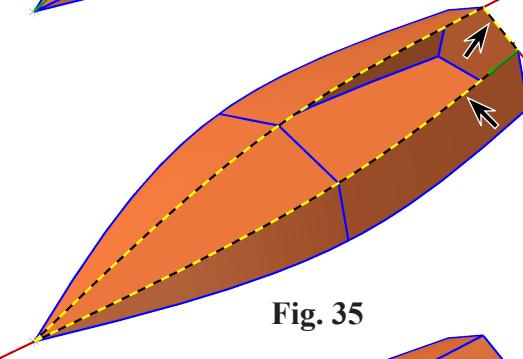

Fig. 35
Step 8. Walk Chain around the rear and side spline in direction of Chain arrows, Fig. 35.